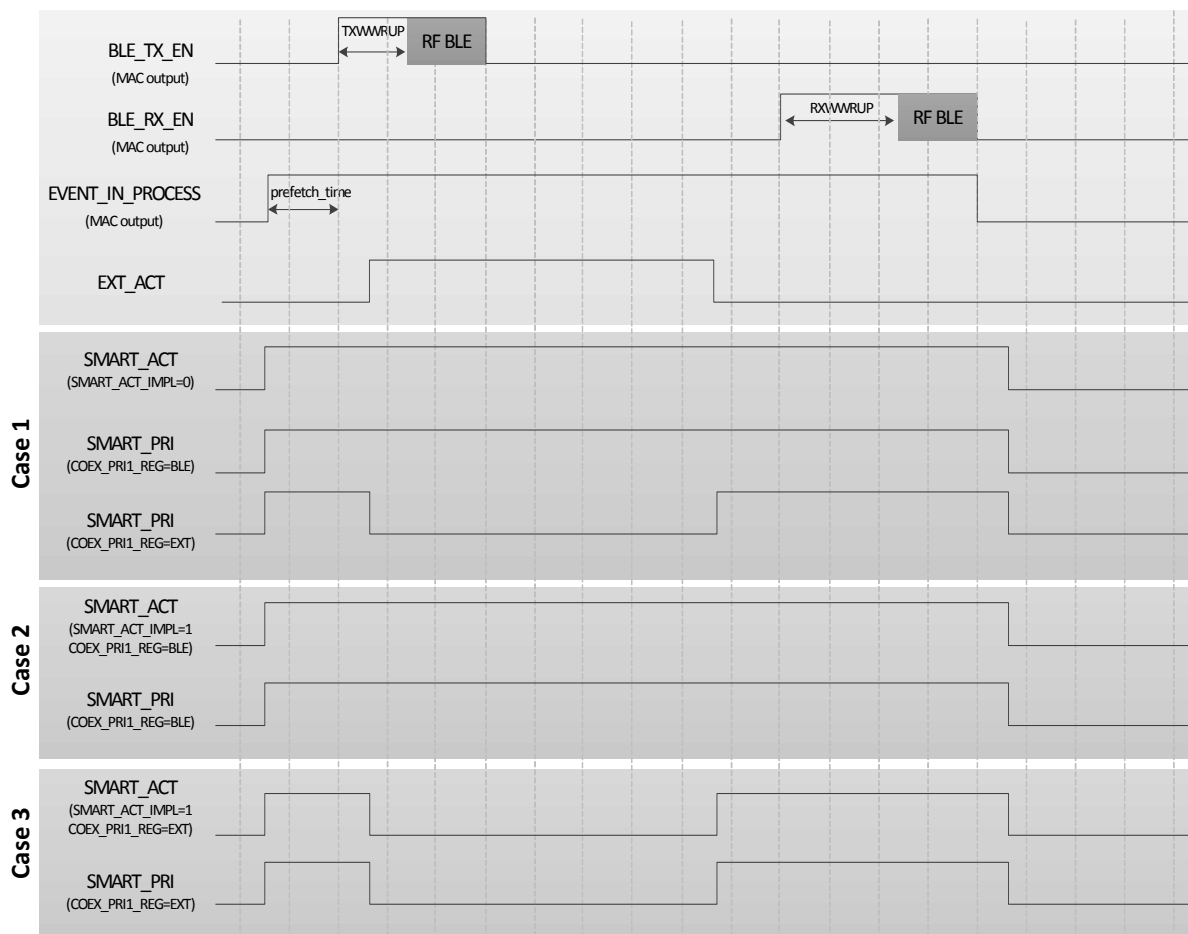

Figure 124: Coexistence signalling cases
2. SMART\_ACT: this is an output from the DA14680 and when asserted it designates that the DA14680 is transmitting or receiving hence an external device should be aware of the radio activity. The exact timing of the assertion of this signal is depicted in Figure 124.
An overview of the aforementioned scenarios is presented in Figure 124.